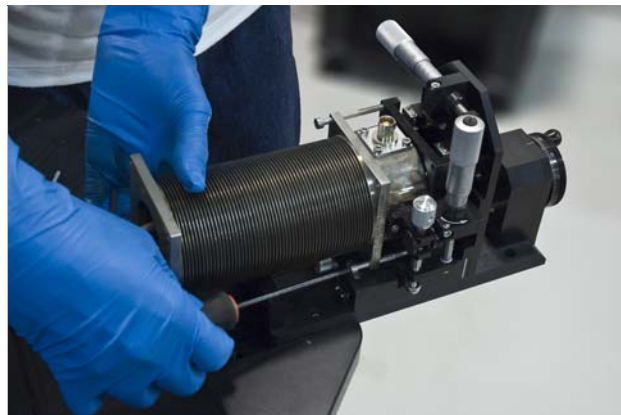

FIGURE 5-22 Loosening the four M4 horizontal screws
2. Using the 3 mm hex driver, loosen the four long M4 horizontal screws that attach the bellows to the z-axis stage, so the probe arm base can rotate (FIGURE 5-22). Simply loosen them two to three rotations; do not remove them.